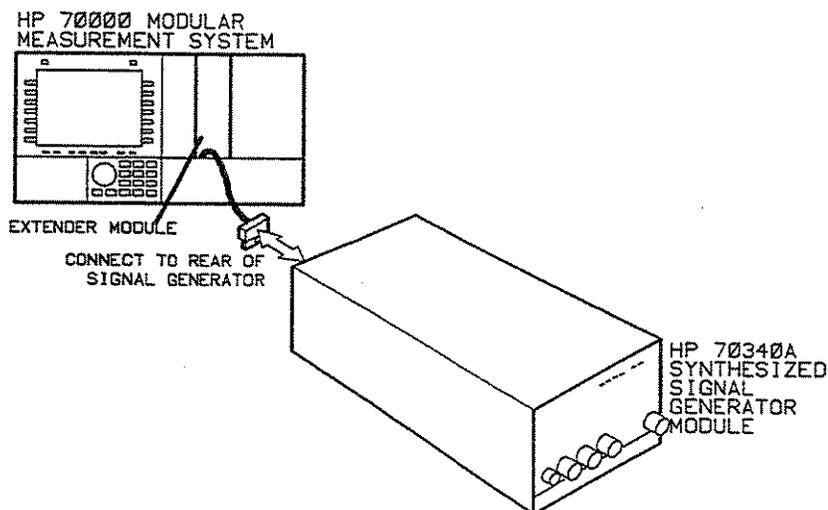

Figure 3-1. Signal Generator and Extender Module Setup
3. Connect the Extender Module (HP part number 70001-60013) from the Signal Generator to the mainframe as shown in Figure 3-1.